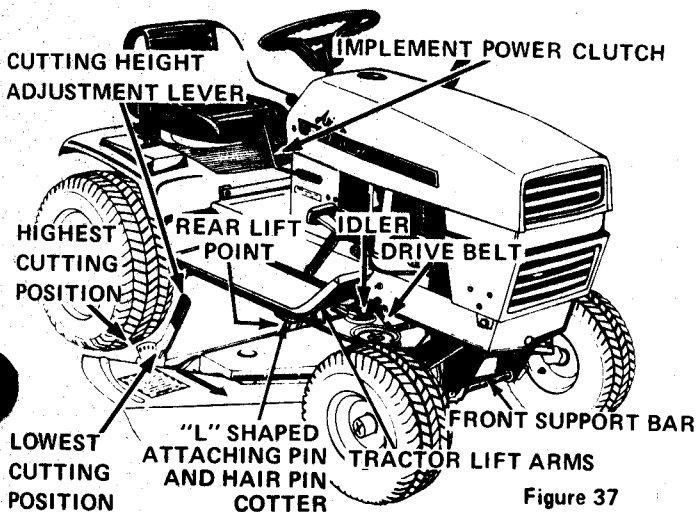

Figure 37
second lowest cutting position, see Figure 37.
5. Place the drive belt over the rear lift point and lower the attachment lift lever. Align ball joint of rear lift point to tractor lift arms and secure with the "L" shape attaching pin and hairpin cotter provided, Figure 37.
6. Position drive belt over the drive and driven sheaves and place idler to the inside of the belt as shown in Figure 37.
1. Move cutting height adjustment lever, Figure 37, to one of the six positions available to obtain the desired height of cut.
3. Place cutting height adjustment lever, Figure 37, in the highest cutting position.
The cutting height is adjustable to any of six different positions by moving the cutting height adjustment lever shown in Figure 37. Raise the lever to decrease cutting height. Lower the lever to increase cutting height.